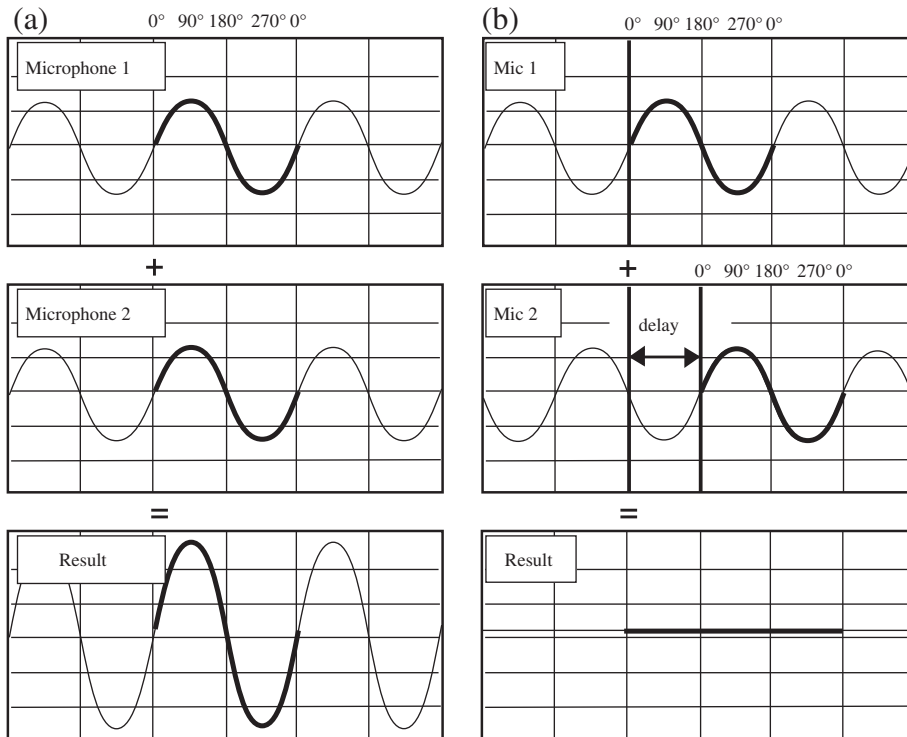

FIGURE 3.16
- **Phase issues.** When identical signals combine, for example when two microphones are bussed to one track, phase shift can be introduced when one of the signals is delayed. This shift or delay is measured in degrees. Figure 3.16 (a) shows that, when similar sine waves combine with no delays, the signal doubles. Figure 3.16 (b) shows that, when one signal is delayed exactly half the length of the sound wave, its polarity is 180° out-of-phase with the other signal. When combined, these signals will cancel each other out. Note that phase or phase shift involves delay. Polarity does not. Polarity refers to the + or – direction of an electrical signal.